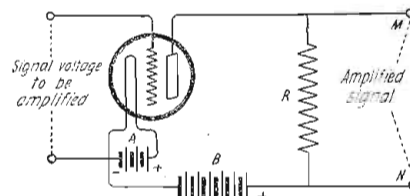

Fig. 13
*Resistance Amplifier.*—In Fig. 13 is given the elementary idea of amplification using a resistance in the plate circuit of the tube. The signal voltage to be amplified is impressed between the grid and filament of the tube, and, as we know, the variation in the grid potential will produce a corresponding variation in the value of the plate current. This pulsating plate current flows through the resistance *R* and so will produce pulsating voltage across the terminals of this resistance.
in the loss of pressure when water flows through a piece of pipe or hose. If the water system to which the pipe is attached has a pressure of 100 pounds per square inch there will also be this much pressure at the end of the piece of pipe, provided no water is flowing through the pipe; that is, if the valve at the end of the pipe is closed. But if the valve at the end of the pipe is open, so that water can flow, the pressure at the open end of the pipe will now be less than 100 pounds, because of the loss of pressure in the pipe itself. This loss of pressure will depend directly upon the amount of water which is allowed to flow through the pipe; if the valve is nearly closed so that but little water can flow, the pressure at the end will be nearly 100 pounds, but if the valve of the pipe is opened wide so that much water can flow, the pressure at the end of the pipe will be almost nothing. But if the pressure at the end of the pipe is less than 100 pounds the difference must have been used up in forcing water through the pipe. So we get the idea that the drop in pressure through the pipe is proportional to the amount of water flowing through it. In the same way the drop in electrical pressure, or voltage, through the resistance *R* of Fig. 13 is proportional to the plate current which is flowing through it.
If the tube circuit given in Fig. 13 is operating properly the pulsation in voltage across *R* will be of the same shape as the signal voltage but much larger; with the ordinary tube and suitable resistance, about four times as large. The amount of power used by the grid in changing the plate current, it must be remembered, is practically nothing. Much the same action might be produced with a flow of water instead of a flow of electrons. If a fire hose were equipped with a valve about the same as the ordinary faucet it would be very easy to shut off or start the powerful stream of water. A small child, by vibrating the valve handle, could produce corresponding pulsations in the stream of water, and the power in the pulsations of the water stream would
Instead of being satisfied with the amount of voltage amplification which can be obtained from one tube, it is quite feasible to connect points *M-N* of Fig. 13 to the grid and filament of another tube. The voltage impressed on the grid of the second tube would be then four times as great as the voltage of the signal which was impressed on the grid of the first tube. The points of the resistance of the second tube, corresponding to points *M-N* of the first, may be connected to the grid and filament of a third tube. As the voltage impressed on the grid of the third tube has been increased four times by the first tube and then again four times by the second tube, the third tube will have impressed on its grid a voltage 16 times as large as the original signal voltage.